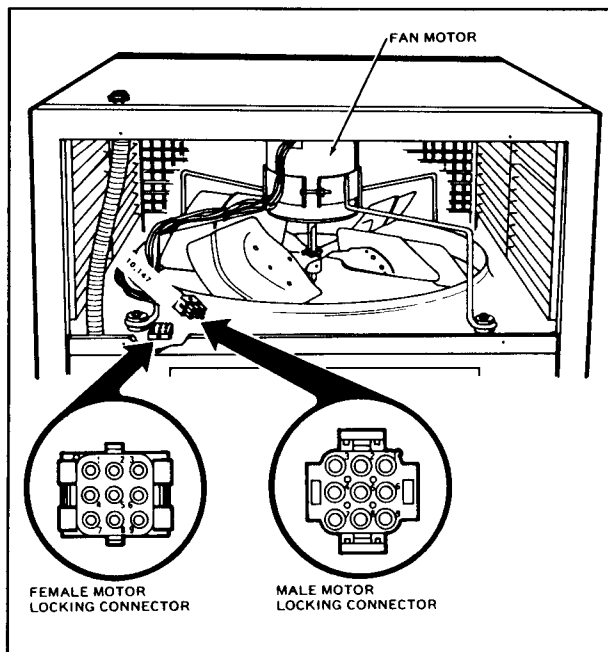

FIGURE 9 - MEASURING FAN MOTOR VOLTAGE
- Actuate the interlock switch (push prefilter screen in) and measure voltage at plug pin for each fan speed setting as shown in Figure 9.